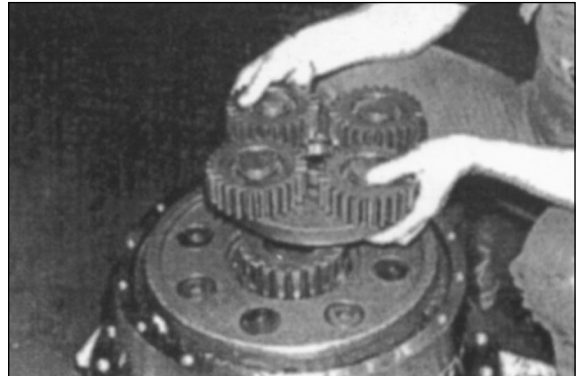

Figure 83
21. Remove second planetary gear assembly. Figure 83.